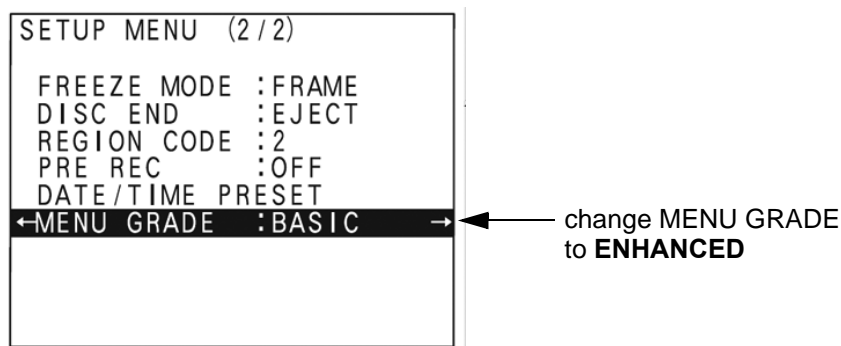

Figure 3-14 "Setup Menu" - [MENU GRADE] highlighted
- 6.) Press the \downarrow (down) button on the front of the recorder repeatedly until [REMOTE I/F] is highlighted, see Figure 3-14 on page 3-20.
- 5.) Press the \rightarrow (right) button. The “Setup Menu” appears, see Figure 3-14 on page 3-20.